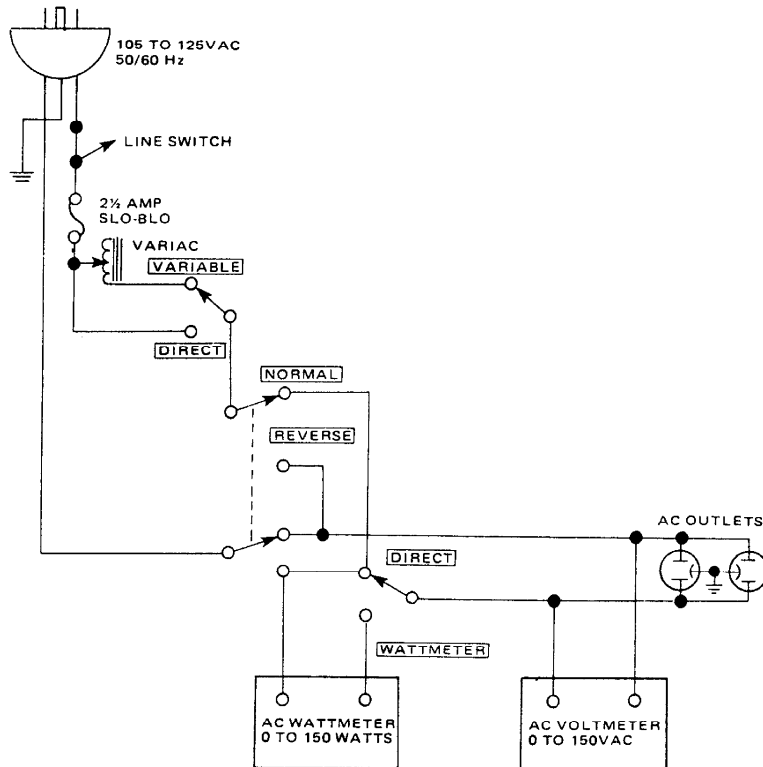

Figure 1. AC Power Control Box Simplified Schematic
Table 1 lists the test equipment required for servicing the Model 1050/1072 Stereo Console Amplifier.\* The wattmeter, AC voltmeter, and variable autotransformer may be assembled as a test fixture as shown schematically in Figure 1. The load resistors and AC ammeter may be assembled into a second test fixture as shown in Figure 2.
1. Make the test setup shown in Figure 1 with the instrument controls set in the following positions: